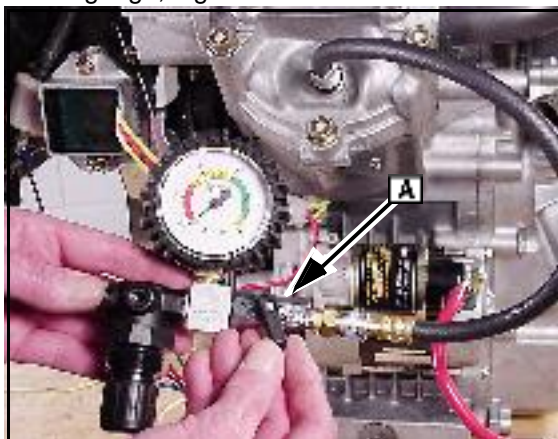

Fig. 4
- Turn regulator adjustment knob clockwise until the tester's needle is on the set point. Push knob in to lock. Slowly open air outlet valve and note position of needle on gauge, Fig. 4.